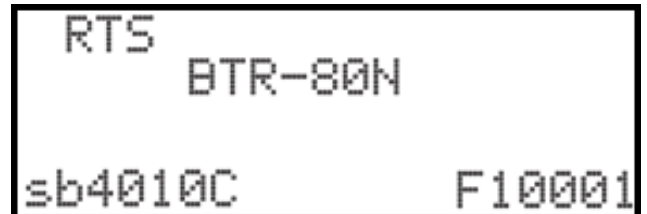

FIGURE 35. Start Up Screen
When the BTR-80N powers up, the first screen displayed is the **Start Up** splash screen. It displays for about three (3) seconds. This screen contains both the software version number and band ID of the base. Figure 35 shows a screen indicating software version sb4010C and a F1 band unit.